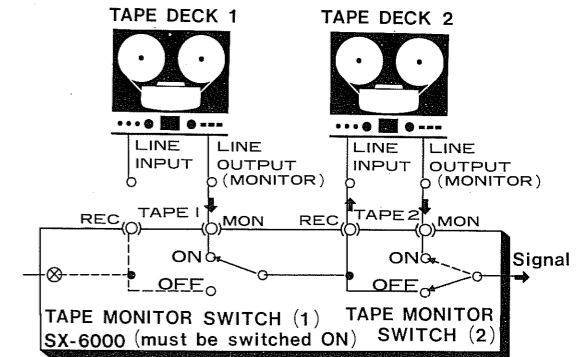

Fig. 9
1. Connect two tape decks as shown in Fig. 9.
2. Set the TAPE MONITOR switch (1) to ON.
3. Play back the recorded tape on tape deck (1) and record it onto the tape deck (2).
4. You can monitor the tape during recording by setting the TAPE MONITOR switch (2) to ON.